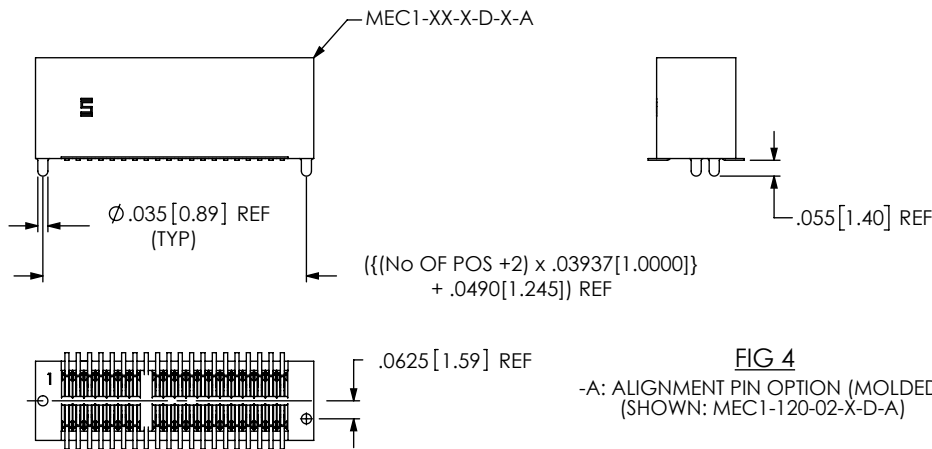

FIG 4
- A: ALIGNMENT PIN (MOLDED, SEE FIG 4, SHT 2) (USE MEC1-XX-X-D-X-A)